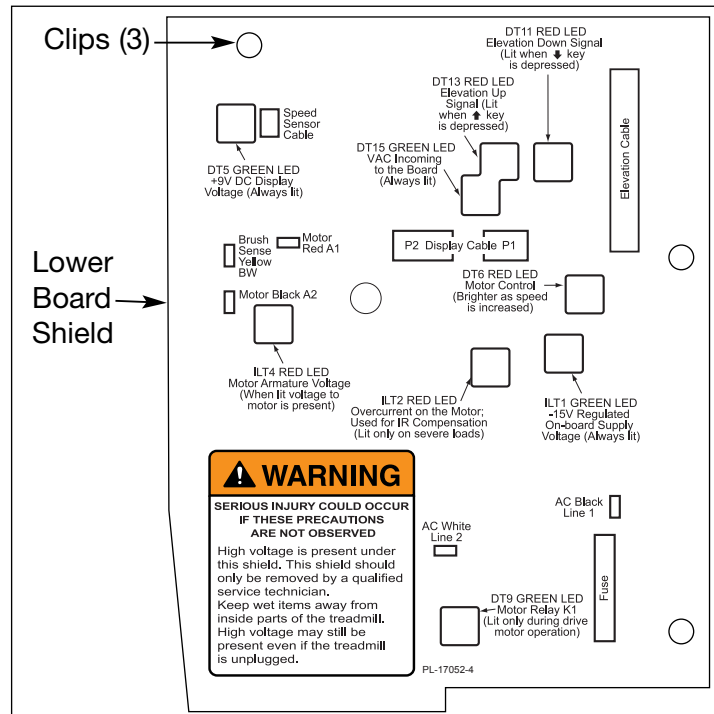

Figure 19
E. Refer to the lower board shield to confirm the locations for the connectors and check to see that all of the cables are connected firmly. See Figure 19.
F. Place the lower board shield in position and push the clips down. **NOTE:** The clips will snap in. See Figure 19.